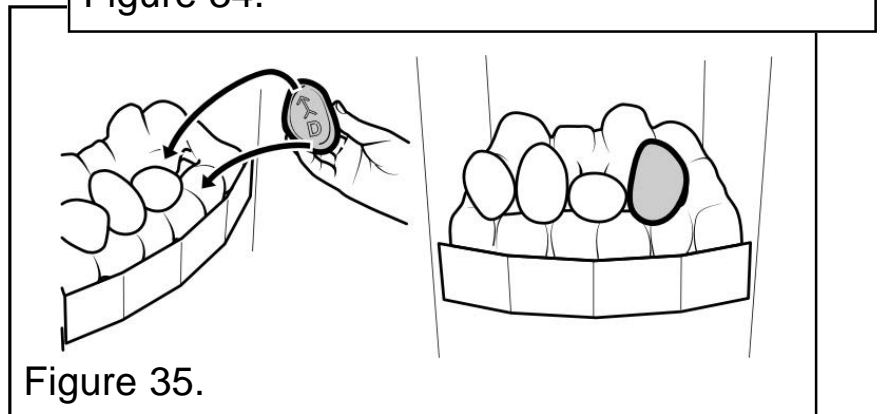

Figure 35.
6. Hold pebble 'D' upright with the arrow pointing to the top. Place pebble "D" on top of the base pebble (See figure 35).